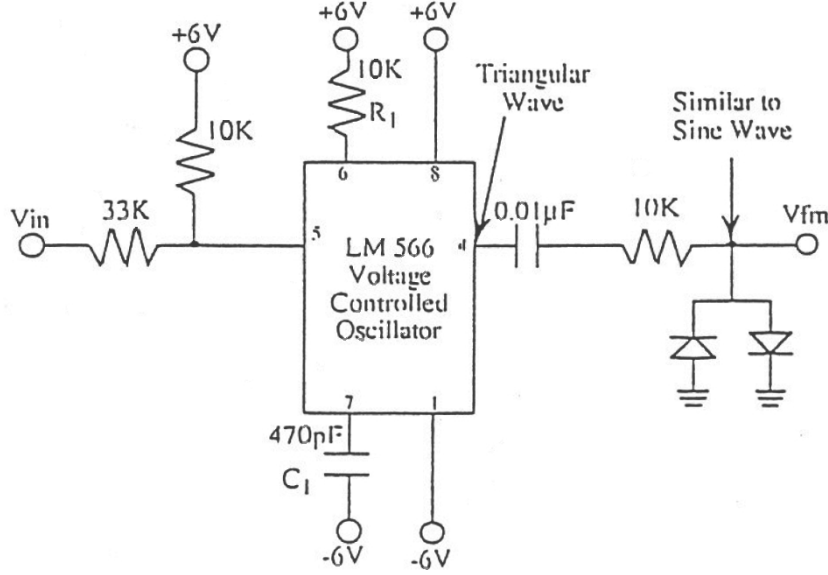

Figure 6.1: Voltage controlled oscillator (VCO) used to generate FM signals
2. For the circuit in Figure 6.1 and the given  $V_{in}$  (DC) values, fill in Table 6.1 with the voltage at input pin 5.
3. For the circuit in Figure 6.1 and assuming the output at pin 4 is a 2 kHz triangular wave, discuss what the output signal looks like.
In this lab, a VCO converts an input voltage to an output frequency. We will use the LM566 VCO in the configuration shown in Fig. 6.1. Several requirements for the LM566 are listed below:
1. Build the modulator circuit as shown in Fig. 6.1.